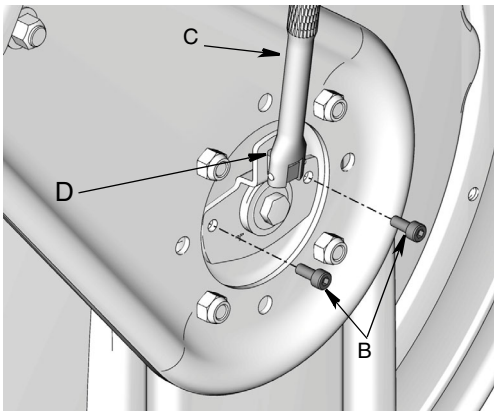

FIG. 20
3. Insert ratchet (C) in slot (D) first, then entirely remove screws (B) (FIG. 20).